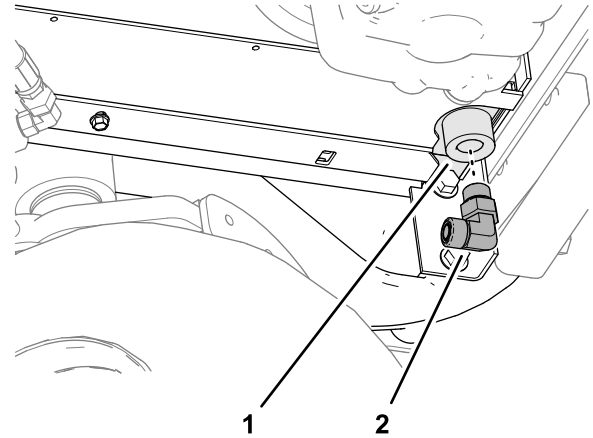

Figure 29
- At the forward, lower corner of the radiator, assemble the 90° fitting (-8 O-ring face seal / 3/4 inch SAE) into the oil-cooler outlet as shown in Figure 29, and tighten the fitting nut.